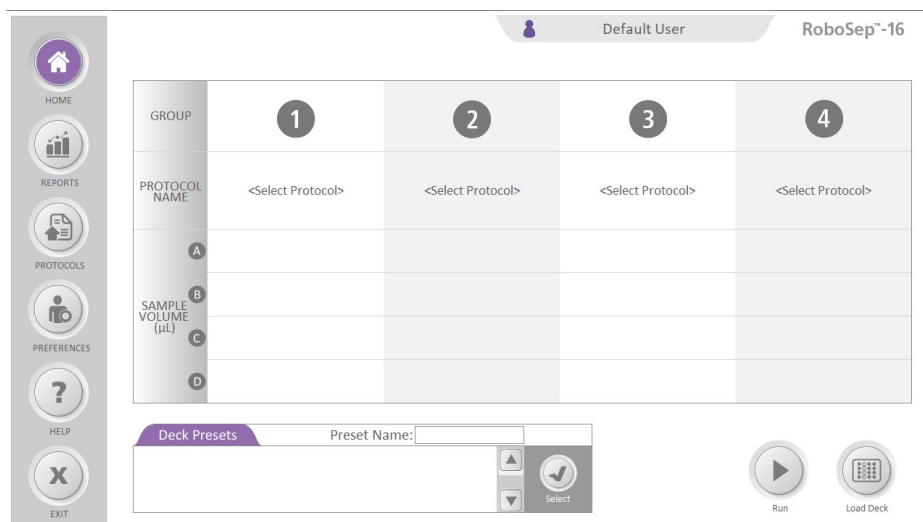

Figure 10. Home Screen
3. Start the RoboSep™-16 application on the computer by double-clicking the desktop icon . The Home screen will appear (Figure 10).